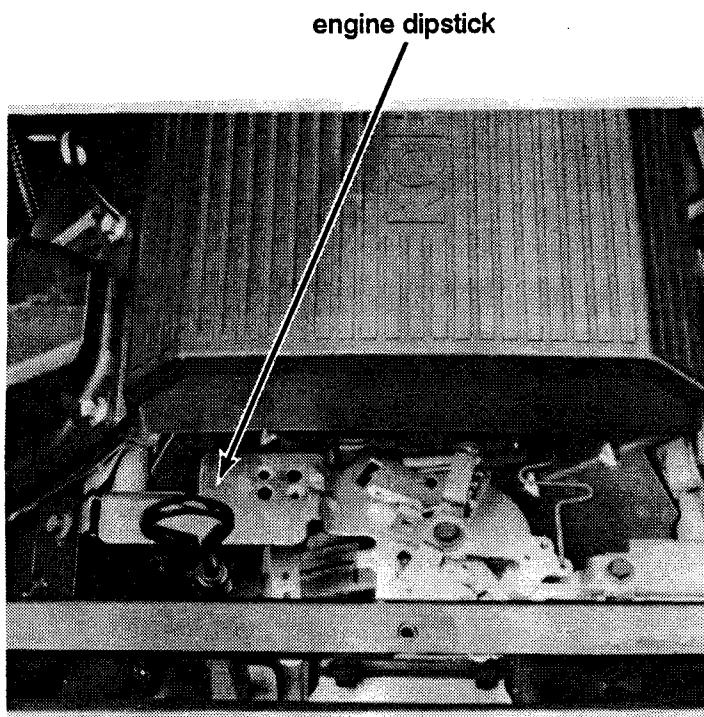

Figure 17. Engine dipstick.
1. Pull dipstick (Refer to Figure 17) completely out of the crankcase. Wipe off oil. Reinsert dipstick completely.